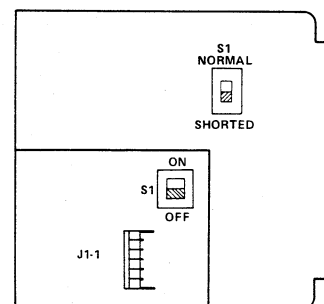

figure 5. Option switch location
3.06 Two option switches must be set before the 7206 can be placed into service and aligned. The locations of these switches on the module's printed circuit board and baby board are shown in figure 5. Switch designations are indicated on the module adjacent to each switch.